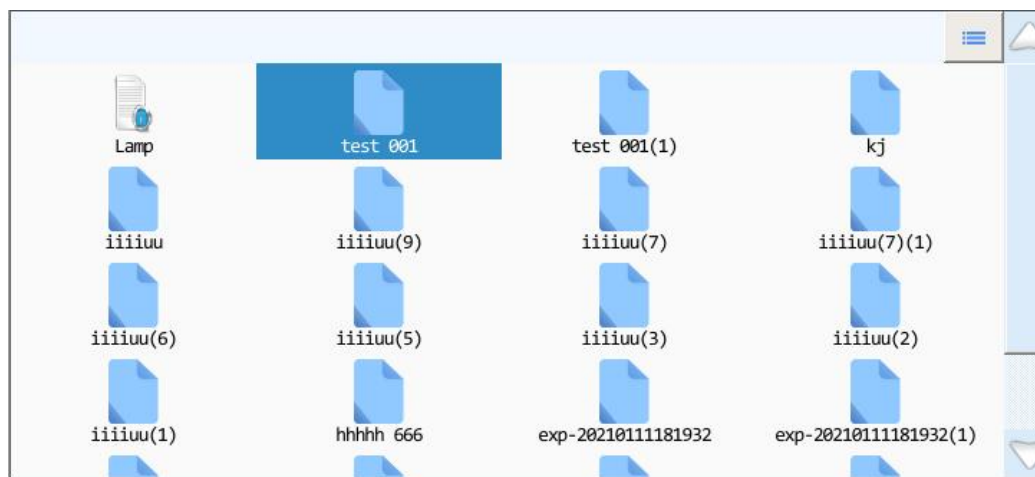

Figure 3.2b Experiment File Interface - Experiment file display area
- 2. **File Displaying Area:** display the pre-existed files within the instrument system, as shown in figure 3.2b